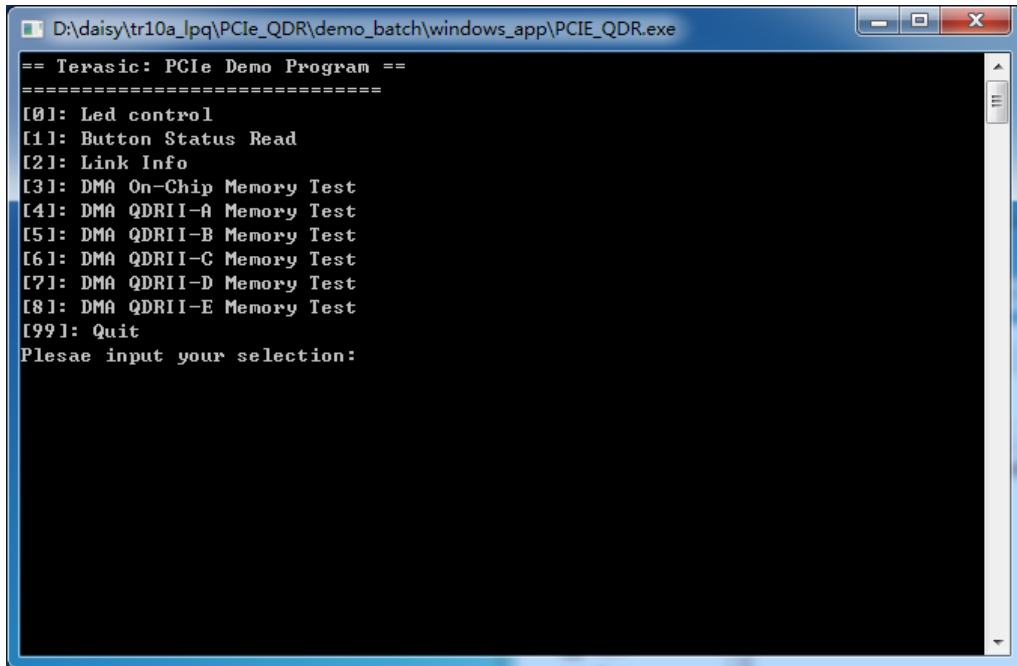

Figure 6-16 Screenshot of Program Menu
6. Goto windows_app folder, execute PCIE_QDR.exe. A menu will appear as shown in **Figure 6-16**.